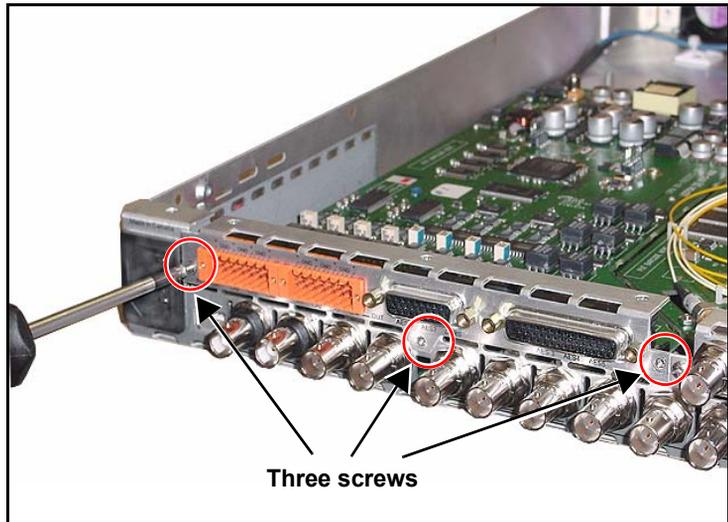
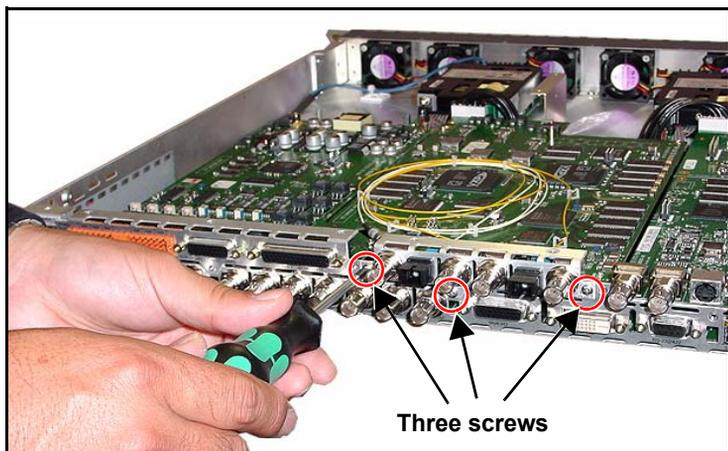

Figure C-35. Removing Audio Back Module Screws
Figure C-36. Removing HDTV Back Module Screws (X75OPT-HDUPG HD Module Shown)
2. Remove the three rear screws that secure the audio submodule to the frame (Figure C-35) and/or the three screws that secure the HD submodule to the frame (Figure C-36).